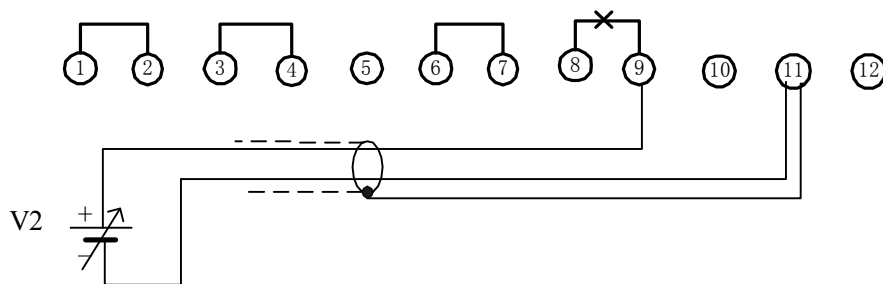

Fig. 10
- a. Disconnect (8) and (9), the shielded two—wire cable is connected as shown in Fig. 10, the positive terminal of the externally —controlled voltage is connected with (9), the negative with (11), also the outer coating of the cable with (11).